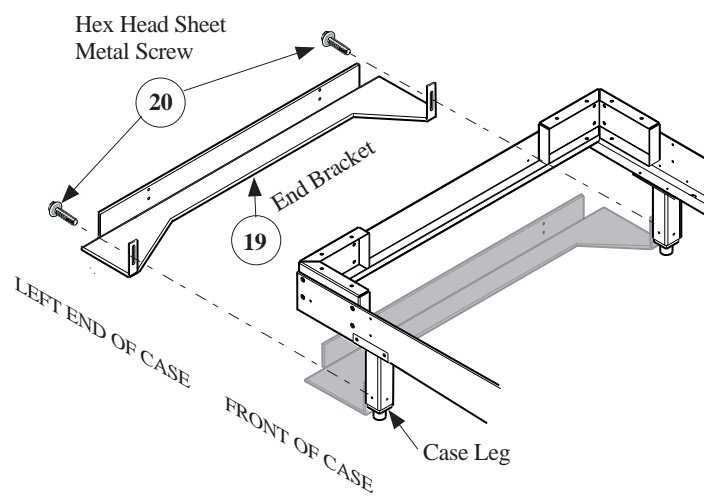

Figure 5. Installing End Brackets
- A. Install **End Bracket – 19** to legs of case using **(2) Hex Head Sheet Metal Screws – 20**, (see Figure 5).